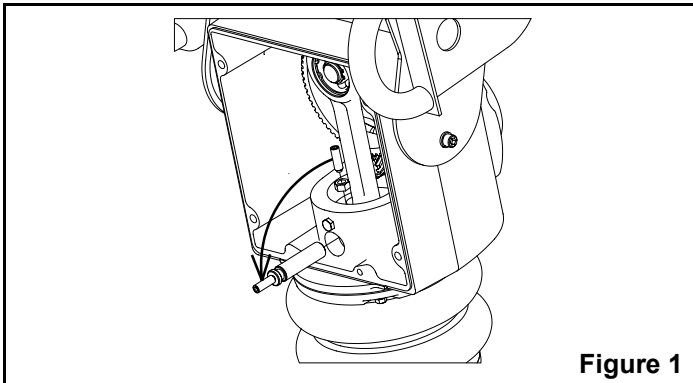

Figure 1
7. Insert the setscrew into the piston pin (#3) and remove the piston pin. See Figure 1.